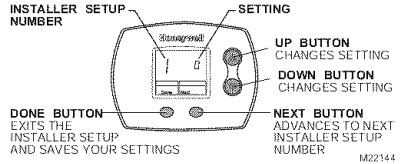

Fig. 18. Review thermostat buttons used for Installer Setup.
3. See Fig. 18 to review how the thermostat buttons are used during Installer Setup. See Table 3 for the Installer Setup Numbers and Settings.